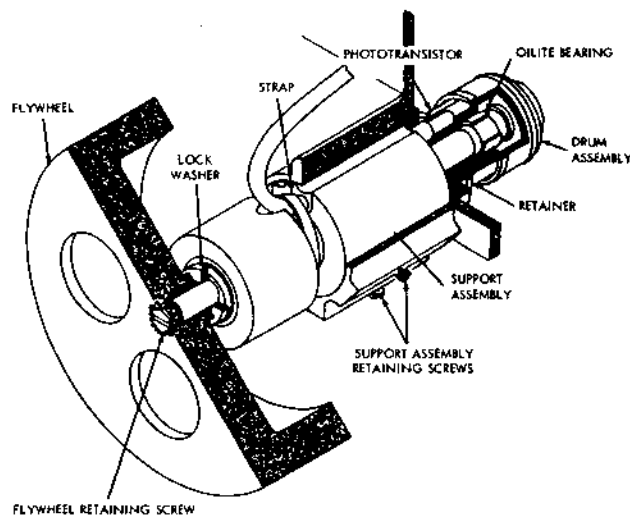

Figure 11B. Cutaway View of Sound Head
Run an aperture brush through the oilite bearing (Figure 11B) to remove all traces of foreign material. Re-lubricate with Cosmolubric 270 and reassemble. Secure flywheel with a new retaining screw (150, Figure 19), part no. 38160-P2, adding a lock washer (150A), part no. 39030, between flywheel and ball bearing race. Secure support assembly retaining screws (152) with Glyptal resin.